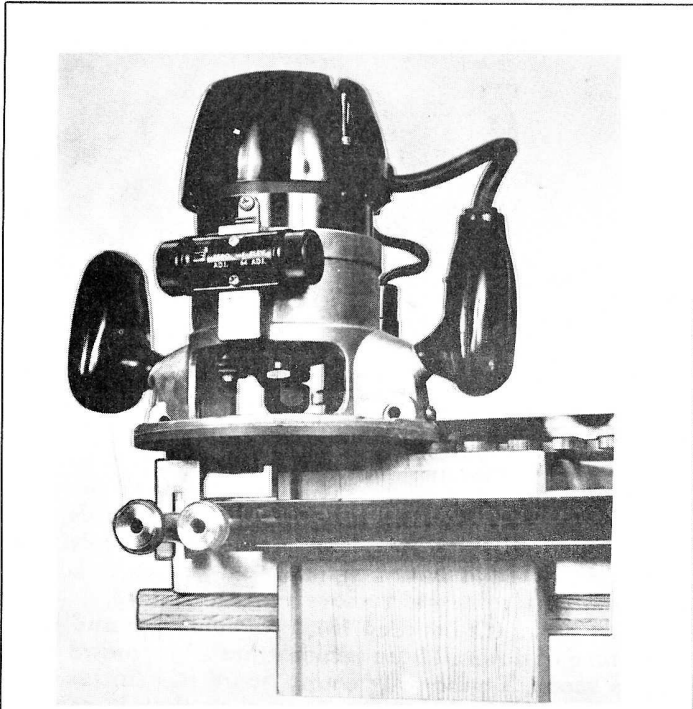

Fig. 9
Place Router with base resting flat on dovetail template so that the guide bushing contacts along the end of teeth on template and cutter engages along the edge of board (A). Make a straight cut from right to left across board (A, See Fig. 9). This is done to prevent chipping the wood when the Router is moved in and out of the fingers of the dovetail template.
Place Router with base resting flat on dovetail template so that the guide bushing engages along the edge of board (A). Make a straight cut from right to left across board (A, See Fig. 9). This is done to prevent chipping the wood when the Router is moved in and out of the fingers of the dovetail template.